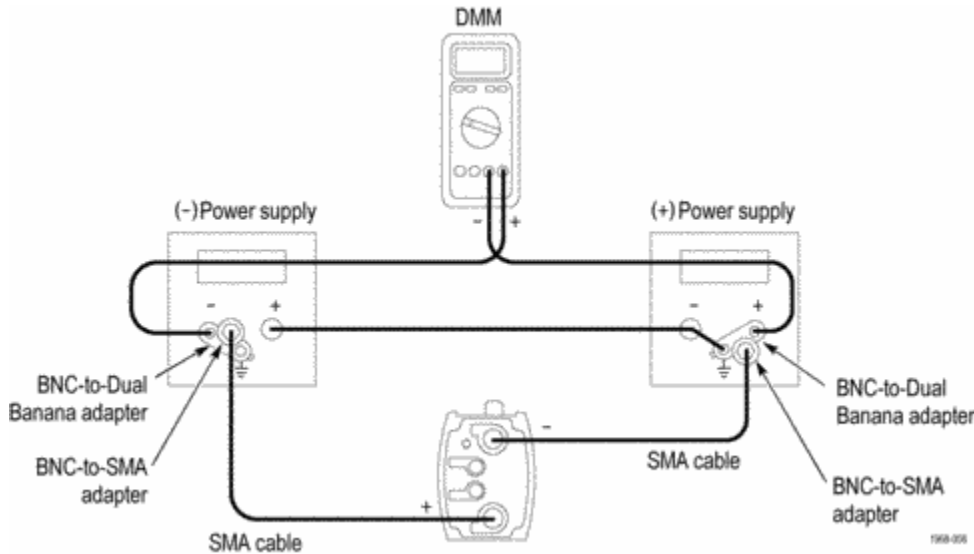

Figure 29: Reverse the power supply polarity on the probe inputs
6. Connect the BNC-to-dual banana plug adapters into the opposite power supplies to reverse the voltage polarity to the probe inputs. (See Figure 29 on page 39.)